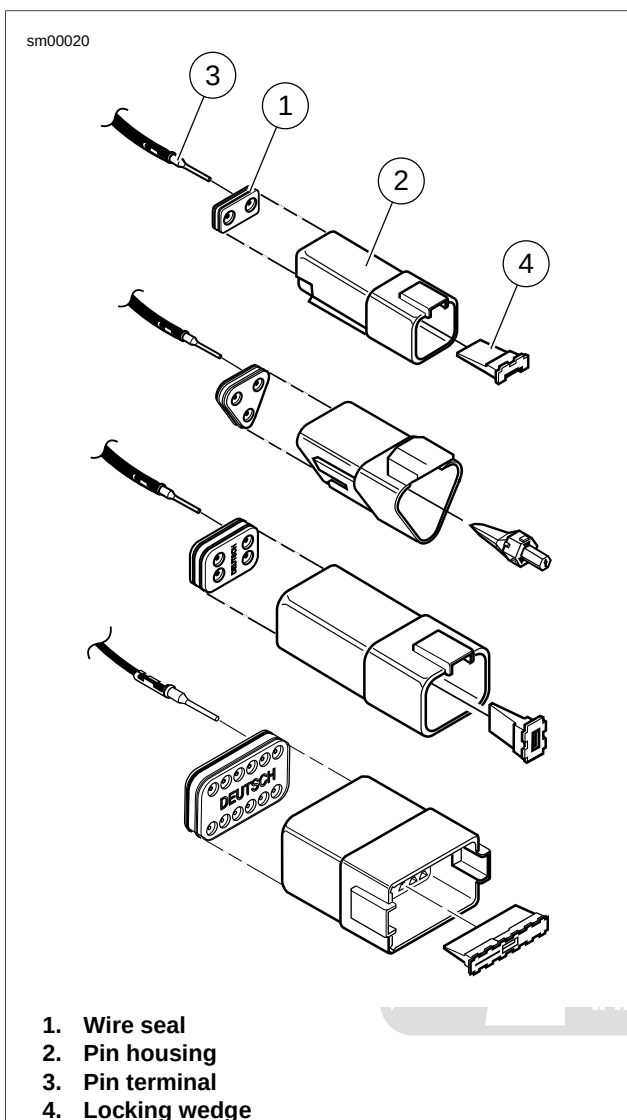

Figure A-19. Deutsch Connector: 2, 3, 4 and 12-Place Pin Housings
1. See Figure A-19. Fit wire seal (1) into back of pin housing (2).
2. Grasp wire lead approximately 1.0 in. (25.4 mm) behind the pin terminal (3). Gently push pin through holes in wire seal into its respective numbered chamber until it "clicks" in place.